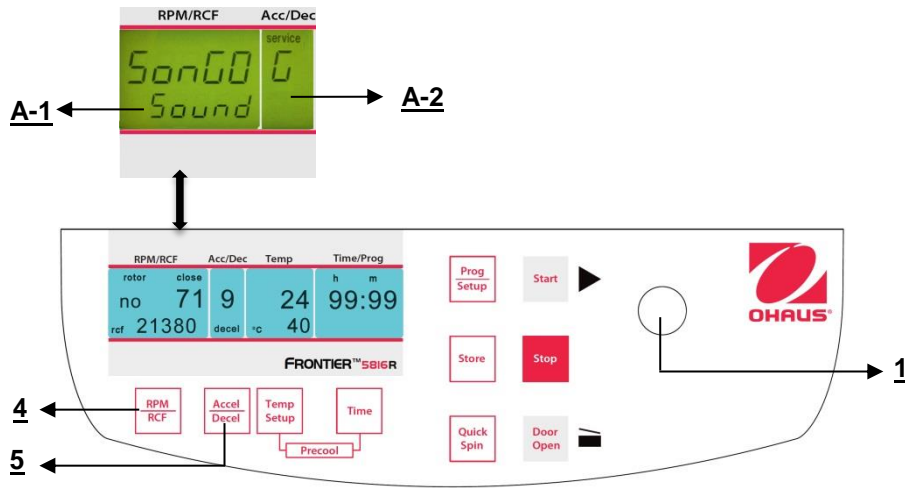

Figure. 34
Proceed as described under point 4.1.1 to enter this program mode and then press the key "Accel/Decel" (5). In the display "Acc/Dec" (A-2) the word "Service" flashes. Now select the letter "G" with the adjusting knob (1). As a result, in the display "RPM | RCF" (A-1), the word "SonGo/Sound" appears. After pressing the key "RPM | RCF" (4), you can select a song with the adjusting knob (1). (See figure 34). After you have stored the settings (see 4.1.1) you can change back to the normal program mode again by switch off the centrifuge for a short while.